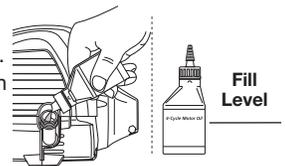

Fig. 38
4. Refill the crankcase with 2.2 fl.oz. (60 ml) of SAE 30 SJ oil (Fig. 38).